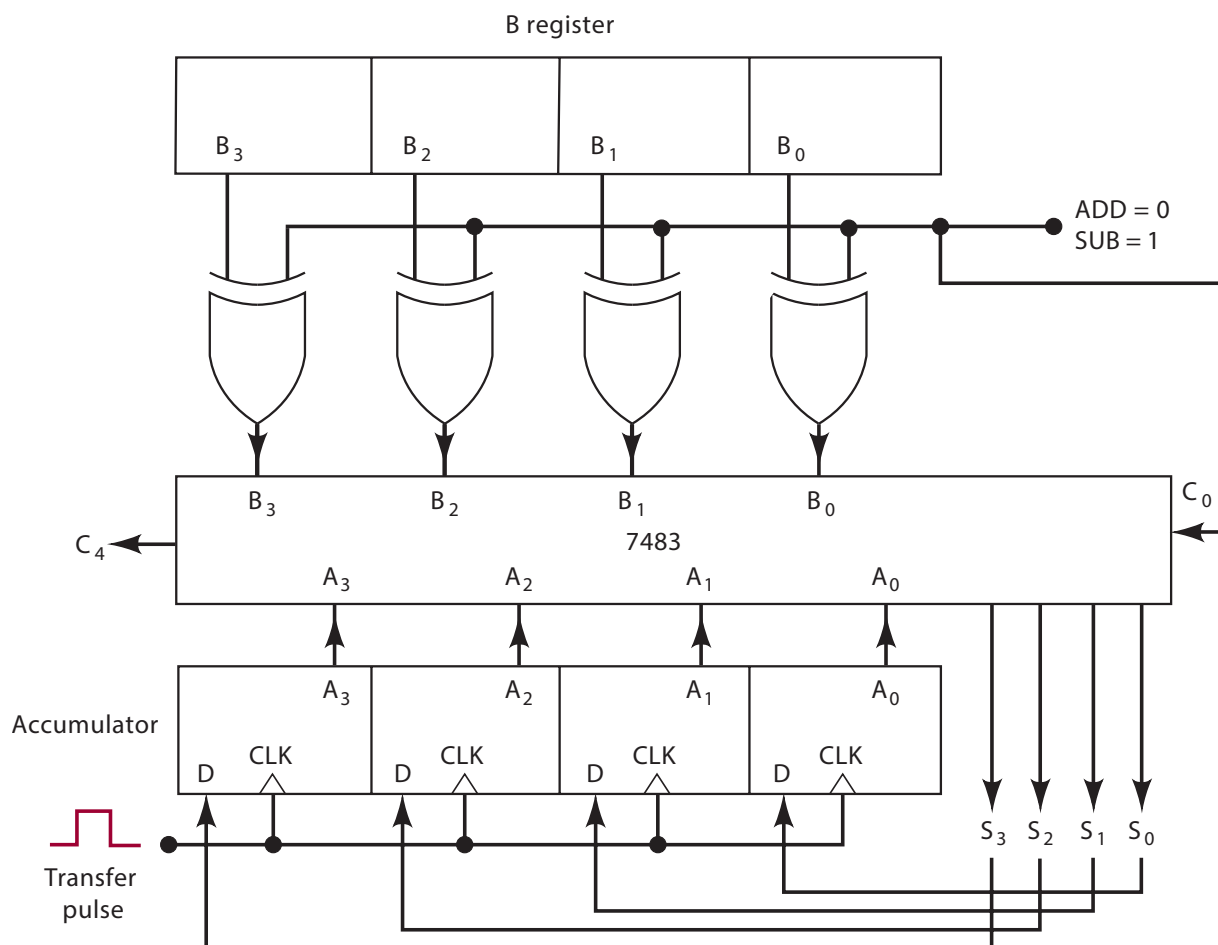

Figure 2: Implementation of a four-bit parallel adder circuit using a 7483 IC.
A parallel adder can be constructed using any number of full adders (FA) by connecting them parallelly. An FA circuit adds two inputs and a carry input and generates one sum and a carry output. One FA's carry output is carry input to the next higher order FA. Thus, all the bits of both augend and addend are tied into the circuit parallelly and addition in each adder always happens simultaneously. For a 4-bit parallel adder, 4 FAs are required. In Figure 2, the variables A_0, A_3, A_2, A_1 , represent the bits of the augend which is stored in the accumulator register, and the variables B_3, B_2, B_1, B_0 represents the bits of the addend which is stored in the B register. variables C_3, C_2, C_1, C_0 represents carry bits into the corresponding FAs. Sum appears at S_3, S_2, S_1, S_0 outputs.